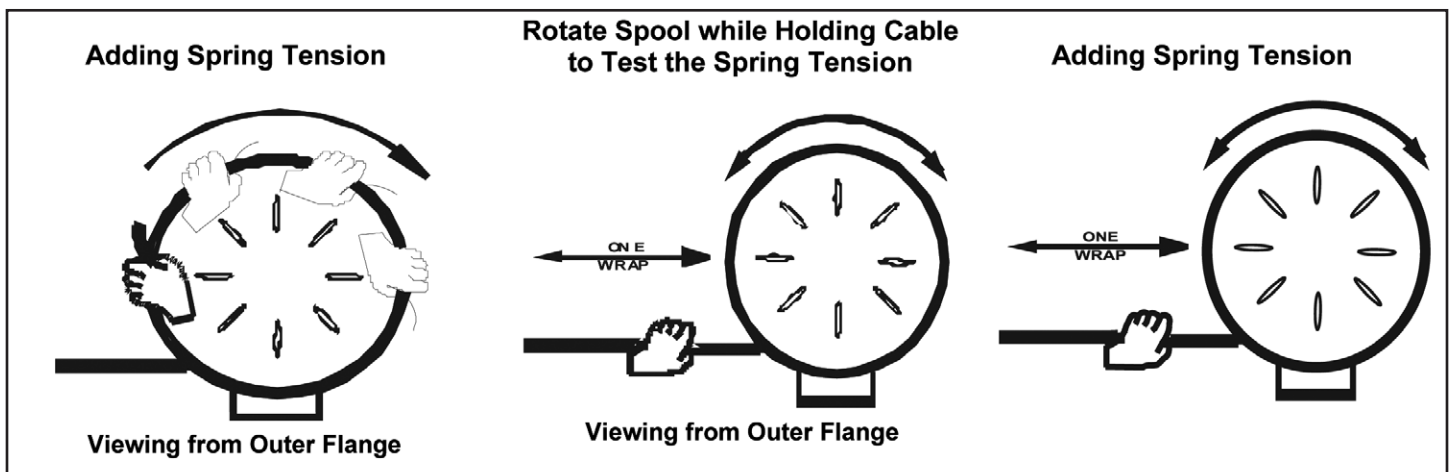

Figure 13-1
4. With all the cable wound on the reel, grasp the end of the cable and rotate the drum and cable together in a clockwise direction in order to pre-tension the spring. Generally, one full turn is adequate for most applications. Use no more than two full turns for pre-tension. See **Figure 13-1**.
6. Repeat steps if necessary to add or decrease tension. See **Figure 13-1**.